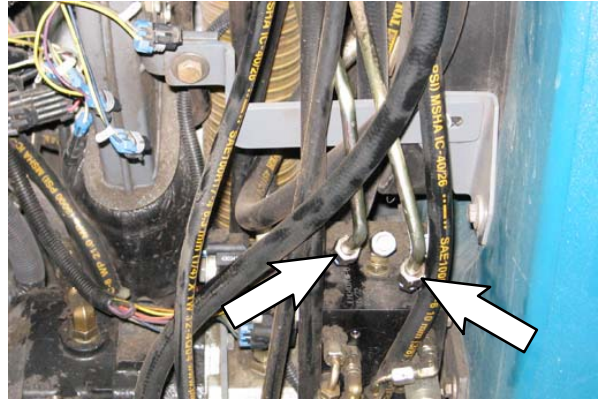

FIG. 18
25. Reconnect both steel tubes to the lower valve. (Fig. 18)